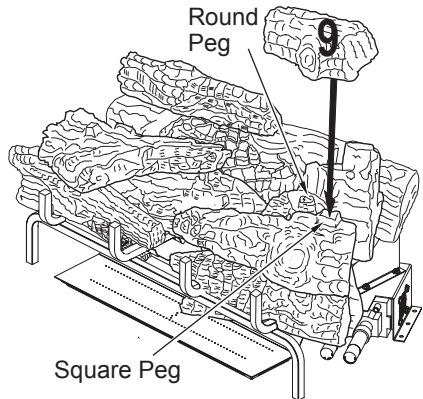

Figure 30 - Installing Log # 9
- Place the top right log (#9) on top of the right rear chunk log (#7) and front right mid log (#8) as shown in Figure 30. Match the round peg on the top of the right rear chunk log (#7) with the round hole on the bottom of the top right log (#9) and square peg on the top of the front right mid log (#8) with the square hole on the bottom of the top right log (#9).